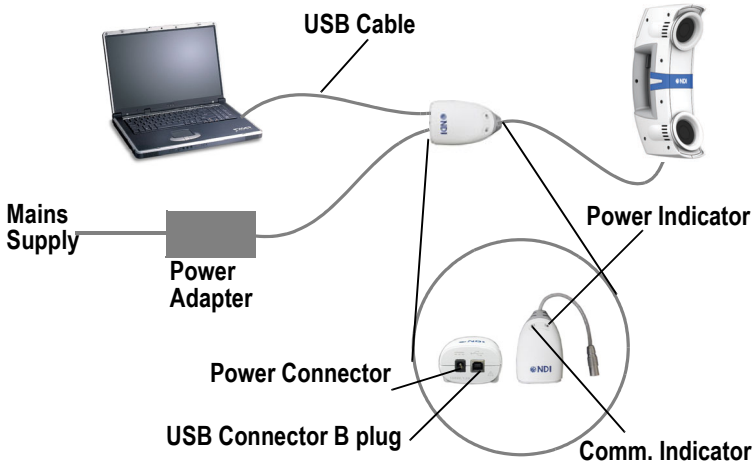

Figure 2-1 Hardware Connection
Connect the hardware as follows, see Figure 2-1:
8. The USB adapter indicators will light as follows, see Figure 2-1: